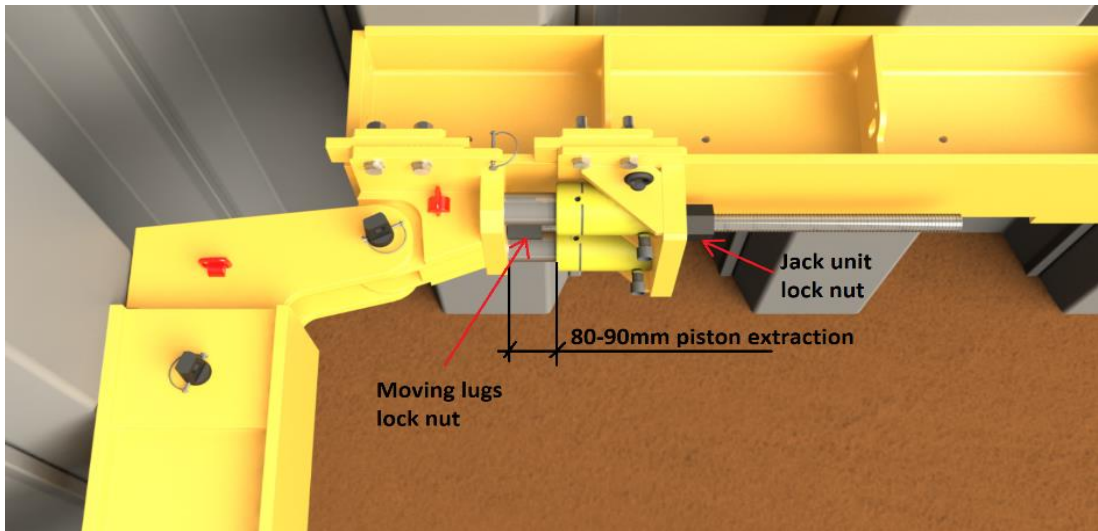

Fig. 13
4. Start pumping until hydraulic cylinders pistons will extract by ca. 80-90 mm (Fig. 13.).